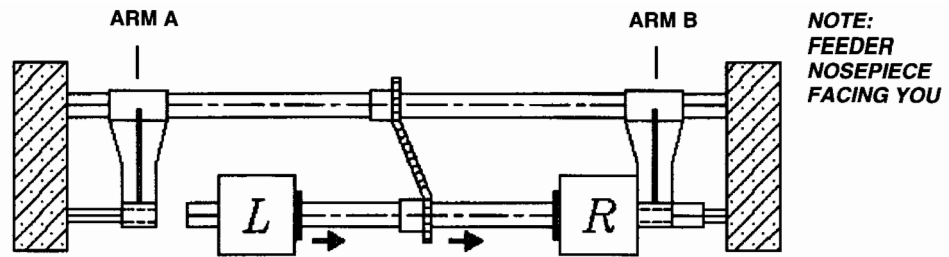

Figure 4-4. Sliding Shaft 1 to Disengage Arm A.
7. Slide Shaft 1 to the right (away from Arm A and through Arm B) to disengage from Arm A, as shown in figure 4-4.